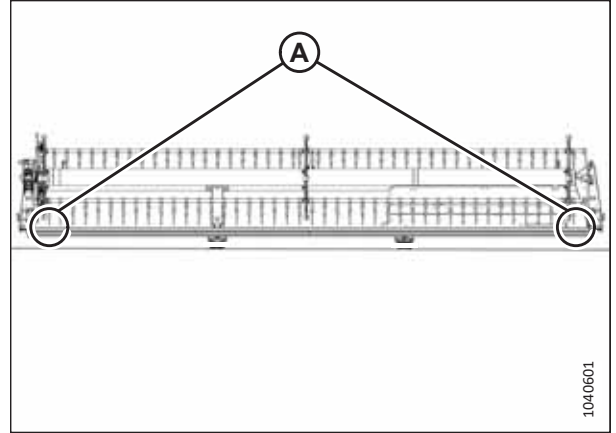

Figure 5.24: Single-Reel Header Measurement Locations
- Figure 5.24, page 205 – single-reel headers